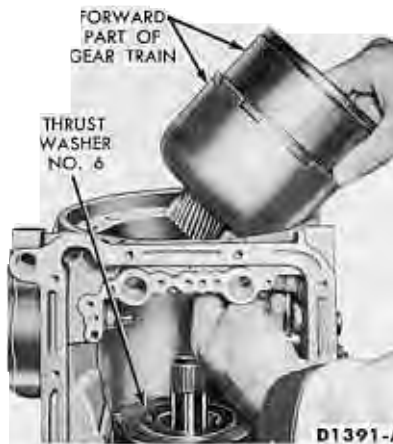

FIG. 41—Removing or Installing Forward Part of Gear Train
5. Using a screwdriver between the input shell and rear planet carrier (Fig. 40) lift the input shell upward and remove the forward part of the gear train as an assembly (Fig. 41).